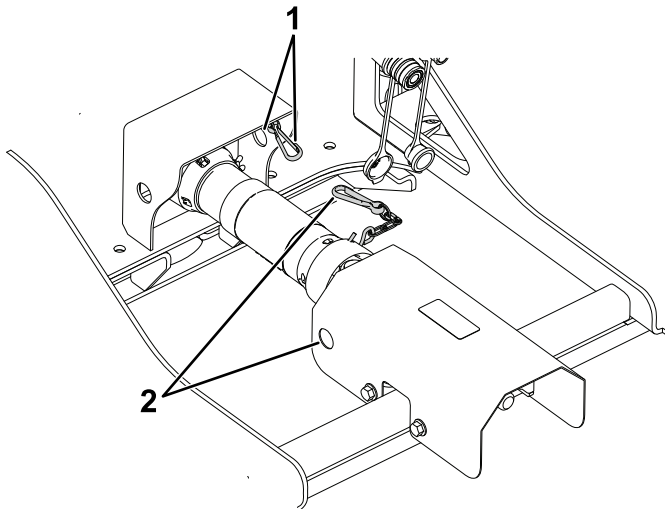

Figure 15
8. Connect the driveshaft-cover chains to the areas shown in Figure 15.